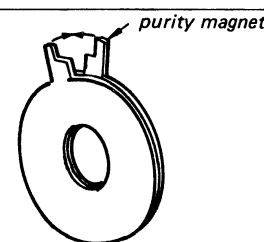

Fig. 3-2
- 3. Adjust purity magnet tabs as shown in Fig. 3-2.